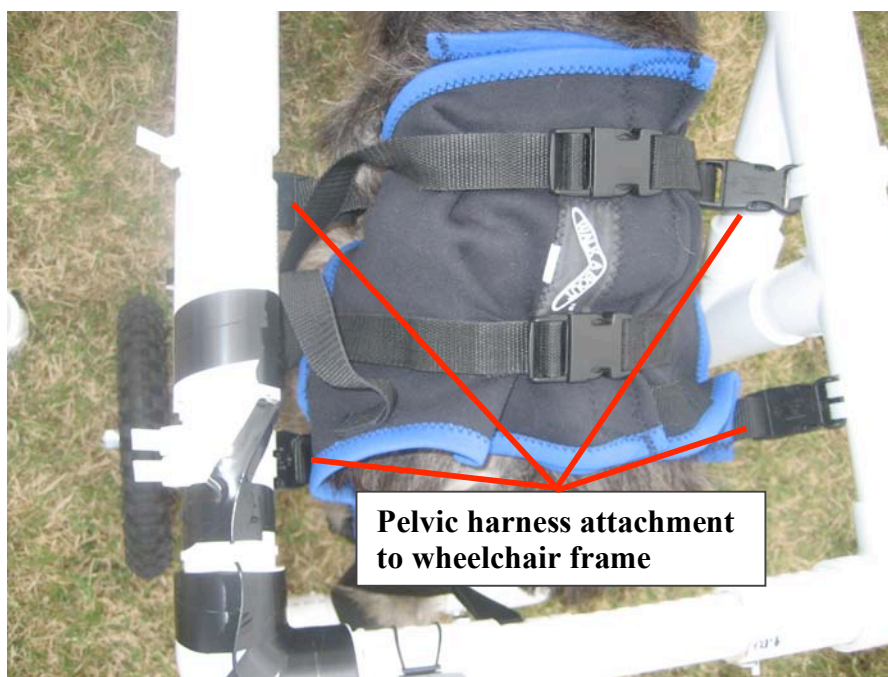
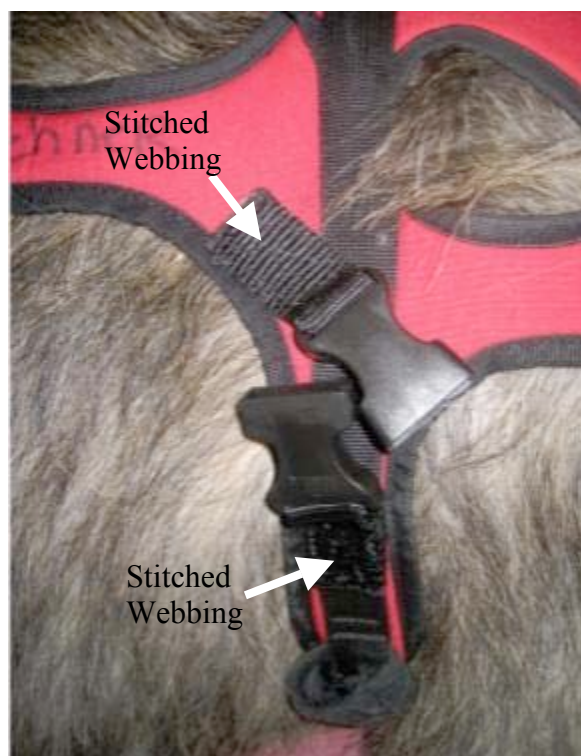

FIGURE 35 – Top View of the Pelvic Harness Attached to Wheelchair Frame.
FIGURE 36 – Orientation of the Buckles for the Chest Harness
Figure 35 illustrates a dog within the pelvic harness positioned in the wheelchair. Cut the loose ends of the webbing straps such that there is approximately 5-6" remaining for adjustability. Seal the ends by briefly holding them over an open flame until the nylon begins to melt.
To balance the dynamic forces placed on the front of the wheelchair during walking, four (4) plastic side snap buckles must be adapted to the harness. Figure 36 illustrates the necessary buckle orientation on the chest harness and Figure 37 shows the approximate location of the buckles on the chest harness. One buckle should be oriented upward and the other downward as shown. Once the proper position of each buckle is identified, attach the receiving end of the buckle to the harness using a section of nylon webbing routed through the buckle end and stitched with heavy-duty thread through the harness (Figure 35). An “X” patterned stitch is recommended for attaching the buckles to the harness. (Note: sewing through the harness material is rather difficult and requires a robust thimble and much patience.)